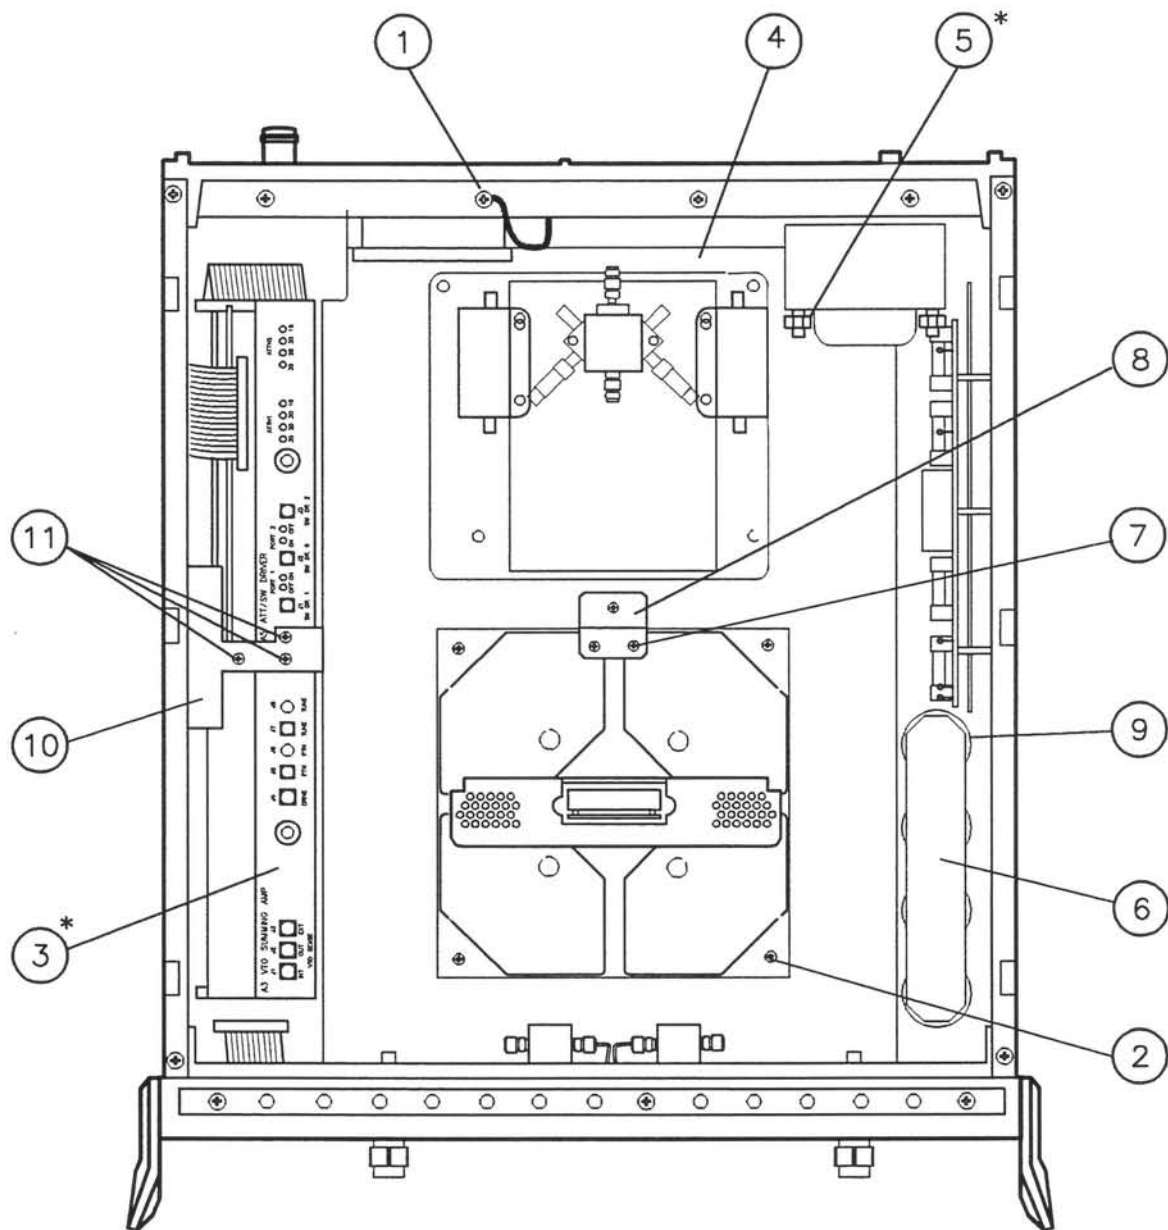

Figure 3-6. Mating the Clamp and Nut Flats
4. See Figure 3-6. While holding the cable with one hand, use the other to press the clamp gently and steadily while wiggling the clamp straight over the RF connector and onto the test port connector nut.